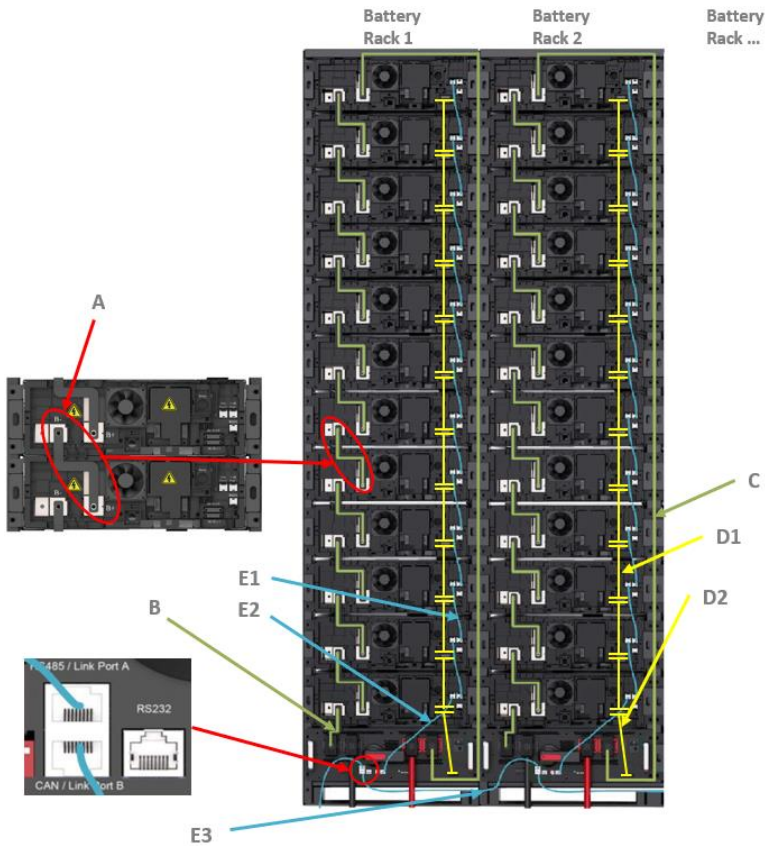
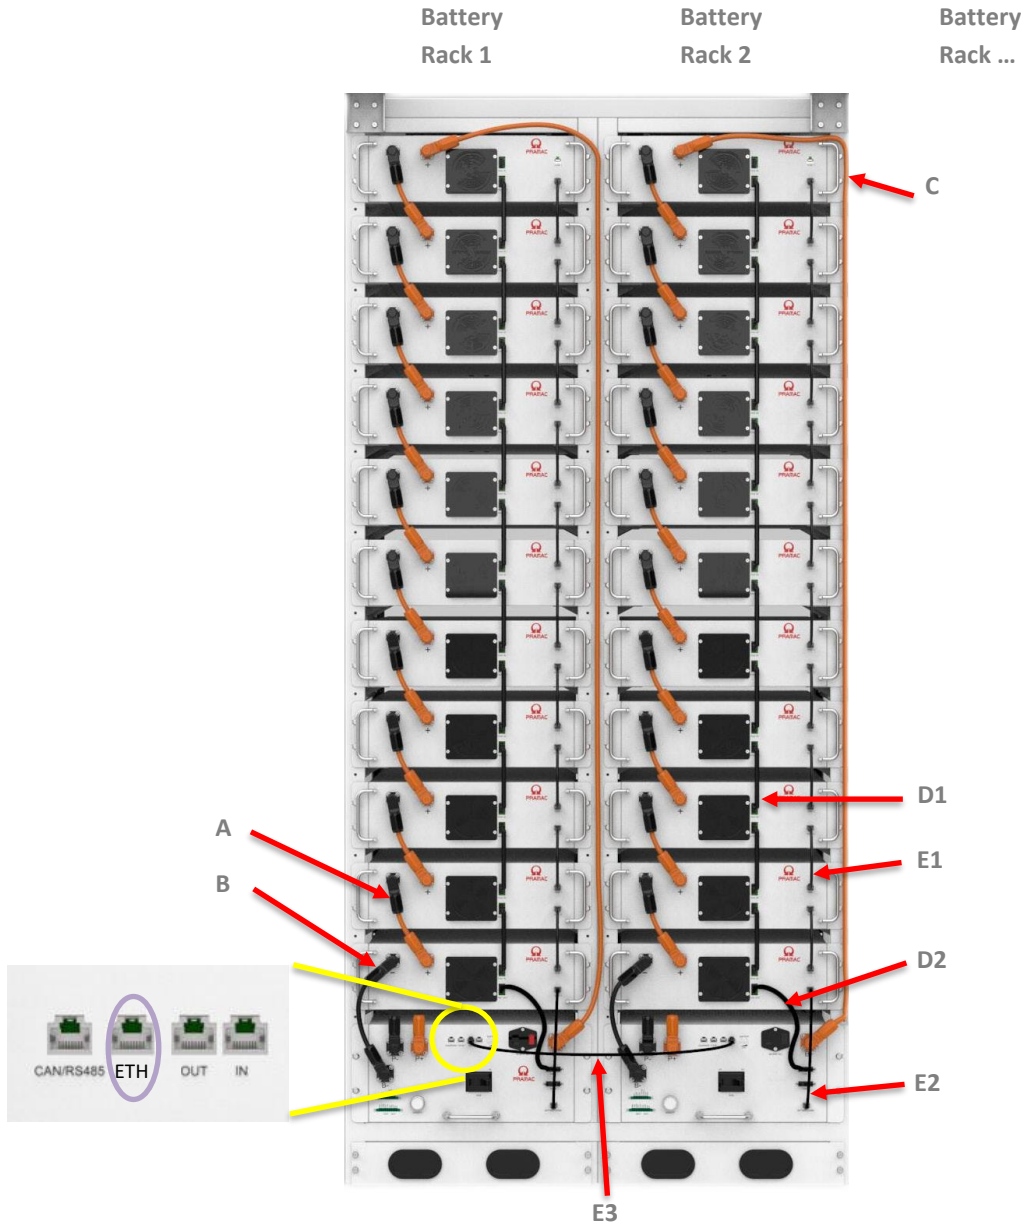

Figure 3-11: Overview of BSC MAX Pro battery rack wiring
Figure 3-13: Overview of BSC PWR cabling
- Connect the DC cabling as shown (lines A, B and C – see "Figure 3-11: Overview of BSC MAX Pro battery rack wiring").
See "Figure 3-11: Overview of BSC MAX Pro battery rack wiring" and "Figure 3-13: Overview of BSC PWR cabling". (E1, E2, E3)